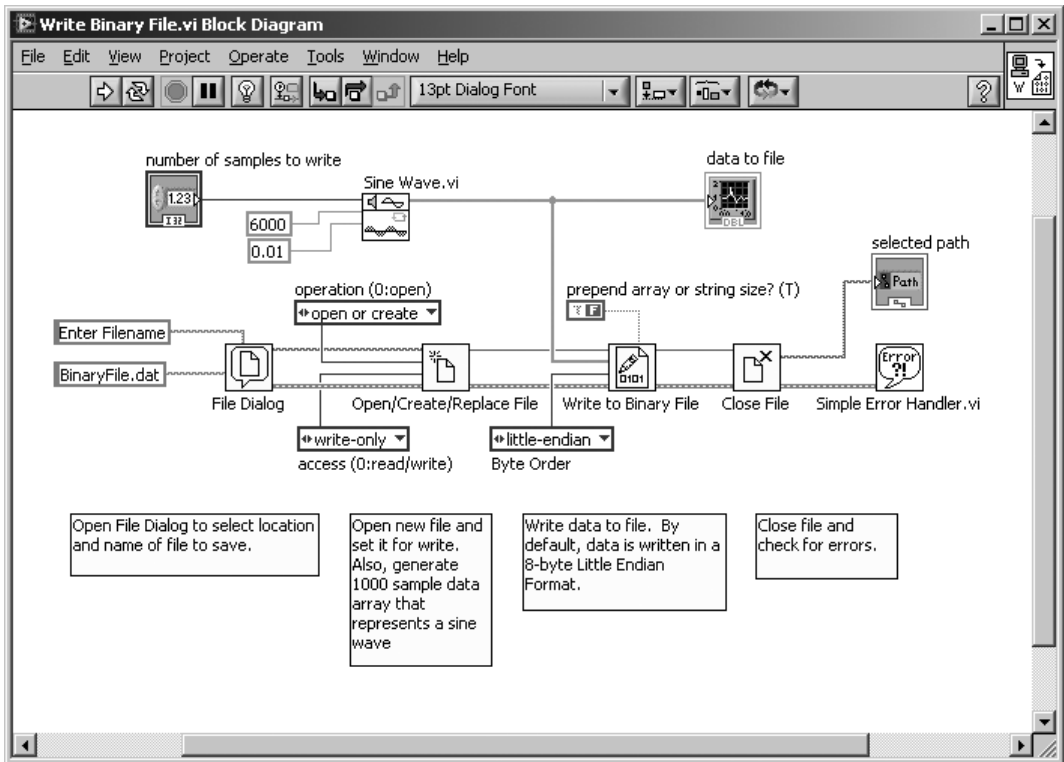

Figure 14.21
2. Create the block diagram shown in Figure 14.21. You can use the **Sine Wave.vi** (found in the **Signal Processing >>Signal Generation** palette) to generate an array that represents a sine wave pattern. Use the File I/O VIs from the **Advanced** palette to handle the file dialog, opening and creating the file, and closing the file.